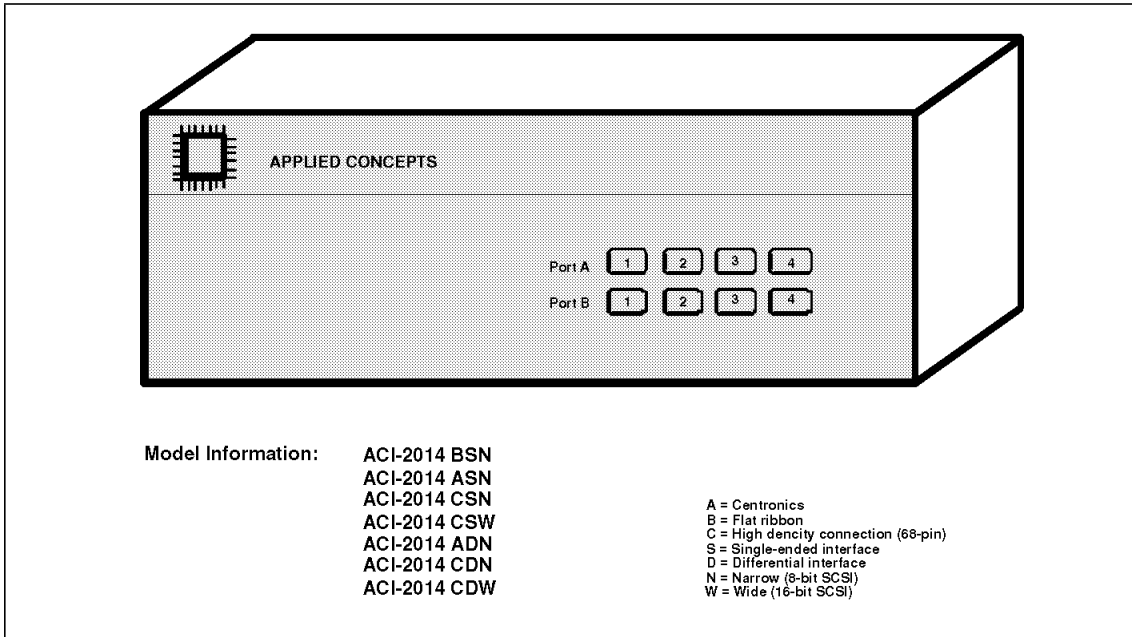

Figure 69. APPLIED Concepts (4x2 Electronic Crosspoint Switch)
- Various types and sizes of switches available as shown in Figure 69 on page 197. Make sure you order the proper SCSI model with respect to SCSI-1 versus SCSI-2, as well as proper cable connections.
The following chapter will provide details on the SCSI switch used in the documented "High Availability" examples. The SCSI switch is a high performance electronic crosspoint switch for use with the SCSI bus. The switch is manufactured by Applied Concept and we used the model ACI 2014 shown in Figure 69 on page 197.